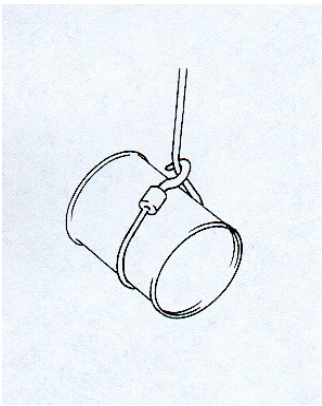

fig.89
- **NEVER** use the rope or chain on the hoist as a sling for the load (fig.89).